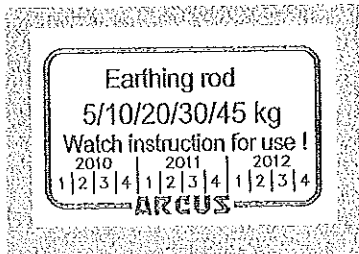

Fig. 1
- When short circuiting, only the handle LH (4) of the earthing rod may be touched!
- The insulating section LI (6) on the earthing rod provides sufficient protection against residual voltage if users guide the rod in such a way that the insulating section LI (6) is between the user's body and any part of the installation that is still carrying residual voltage; this ensures the necessary safety clearance.
- An adhesive label marked "Earthing rod" is affixed to each rod. Rods with couplings (7) for joining various connectors also indicate a figure in kg, which is the maximum weight of an E&S/C device that can be safely lifted and directed with the earthing rod (see Fig. 1).